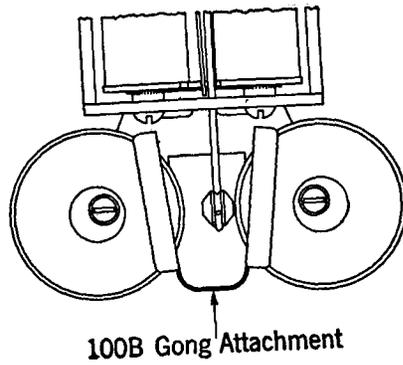

Fig. 3 - 100B Gong Attachment on B-Type Ringer
3.03 Install the 100B gong attachment on B-type ringers as shown in Fig. 3. This gong attachment should not be used with 41-type gongs equipped with 101A gong attachments.
Note: The 100B gong attachment, when installed on the ringer in the 531-type set, shall have the open end located in the opposite direction to the one shown in Fig. 3. This will prevent interference with the attachment when the cover is fastened to the set.